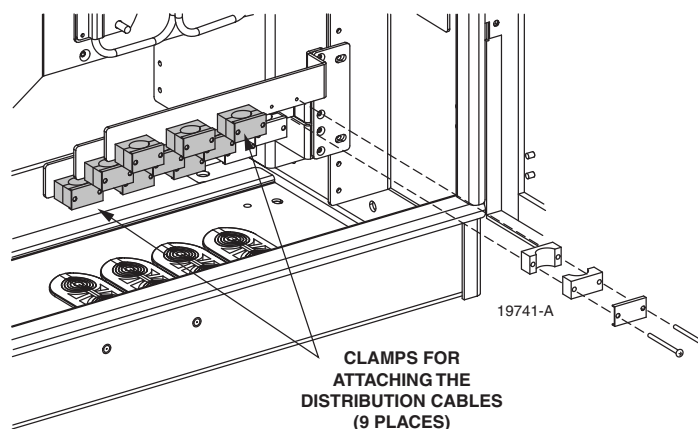

Figure 20. Distribution Cable Clamping Positions
4. Nine cable clamping positions are provided near the center of the cabinet as shown in Figure 20. Select one of the clamping positions as the attachment point for the cable.